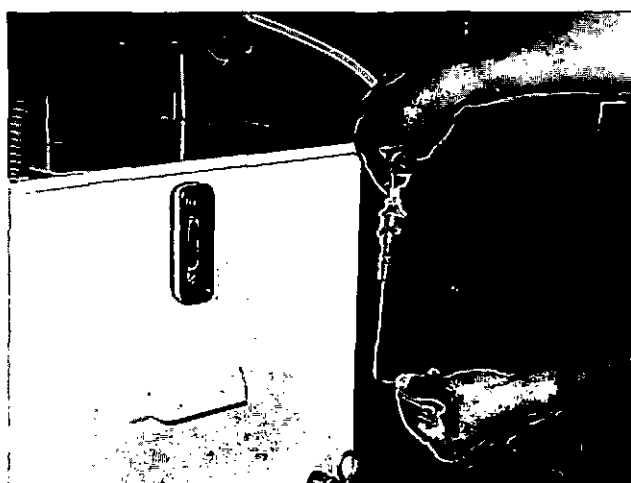

Fig. 4-27. Adjust the gear pump pressure
- g. Adjust the gear pump by-pass orifice, Fig. 4-27.